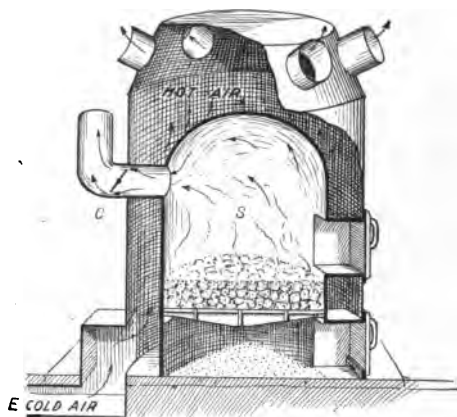

FIG. 13.—A furnace. Pipes conduct hot air to the rooms.
9. Furnaces. *Hot Air.* The labor involved in the care of numerous stoves is considerable, and hence the advent of a central heating stove, or furnace, was a great saving in strength and fuel. A furnace is a stove arranged as in Figure 13. The stove *S*, like all other stoves, has an inlet for air and an outlet *C* for smoke; but in addition, it has built around it a chamber in which air circulates and is warmed. The air warmed by the stove is forced upward by cold air which enters from outside. For example, cold air